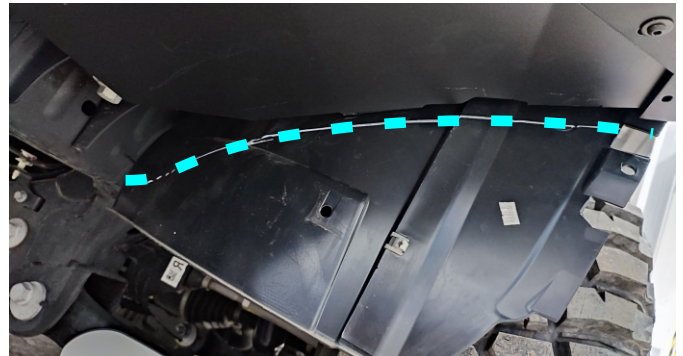

Fig.101
96. Mark a cutting line. Cut plastic inner fender using jig-saw or shears (fig.101). For convenience, the fender can be removed during trimming.